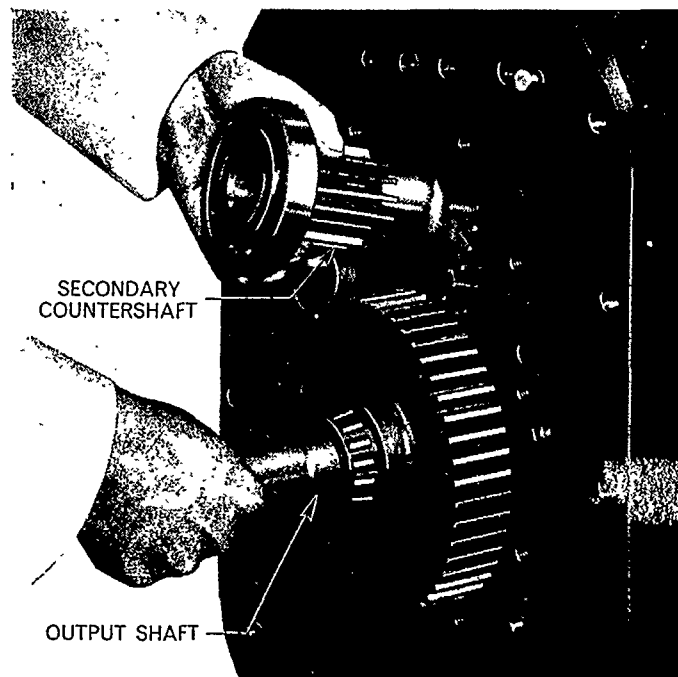

Figure 65
7. Partially withdraw the secondary countershaft assembly until the front bearing is out of its location. Pull out slightly and lift up the secondary countershaft, thereby allowing the output shaft assembly to be lifted out, Figure 65, followed by the secondary countershaft.
2. Make sure the snap ring located immediately in front of the secondary countershaft front bearing in the rear compartment is in position. Place the secondary countershaft assembly in its approximate location and hold it at the top of the compartment while the output shaft assembly is installed, Figure 65. Align the secondary countershaft and drive forwards until the front bearing is felt to seat against the snap ring in the transmission case.